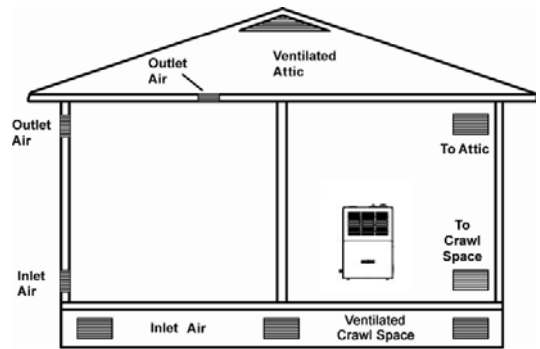

Figure 4 - Ventilation Air from Outdoors
**WARNING:** Maintain the minimum clearances shown in Figure 4. If you can, provide greater clearances from floor, ceiling, and joining wall.